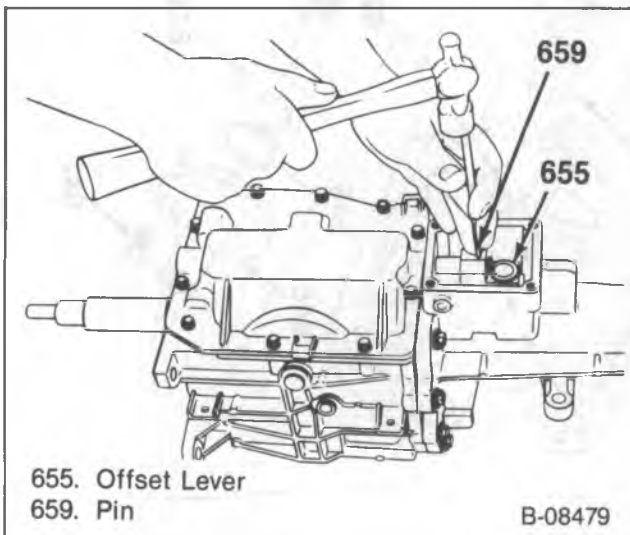

Figure 4—Removing the Offset Lever Pin
1. Control lever (653).
2. Pin (659) from the offset lever (655), (figure 4).
3. Extension housing (613) and the offset lever.